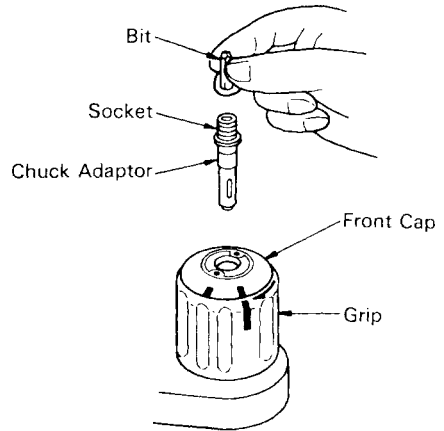

Fig. 9
4. When driving machine screws (Fig. 9)
5. When driving wood screws (Fig. 9)